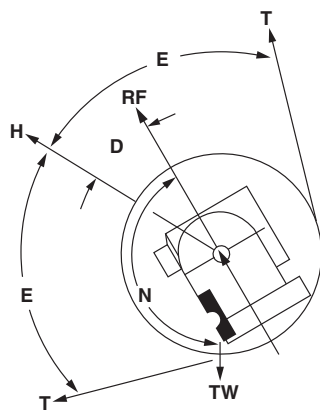
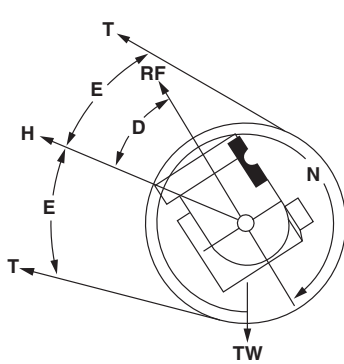

Figure 6A
Figure 7A
The resultant tare is minimized by mounting the Tensioncell so that (N) is 149° (See Figures 6A and 6B) or so that (N) is 329° (See Figures 7A and 7B).